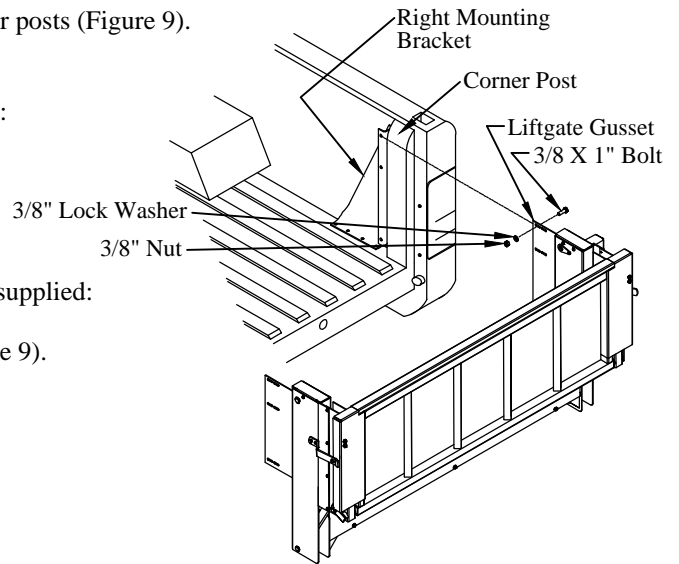

Figure 9: Mounting bracket and liftgate.
- 1. Position** the mounting brackets into the truck bed in front of the corner posts (Figure 9).
- (3) 3/8"x1" hex head bolts on the bracket-side (Figure 9).
- (3) 3/8" lock washers, and (3) 3/8" nuts on the gusset-side (Figure 9).
- 7. Drill** two (2) 3/8" holes into the truck bed floor using two holes in the bracket as a guide.